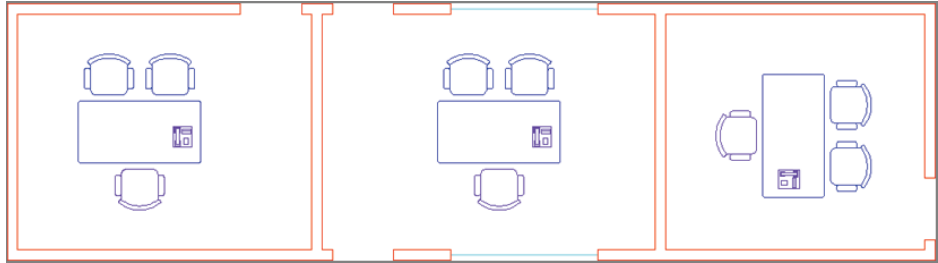

FIGURE 7.27 Copying and rotating groups in rooms
-  4. Click the Rotate tool on the Modify panel, select the group in the room on the right, and press Enter. Click an arbitrary point inside the desk, type **-90**, and press Enter (see Figure 7.27).